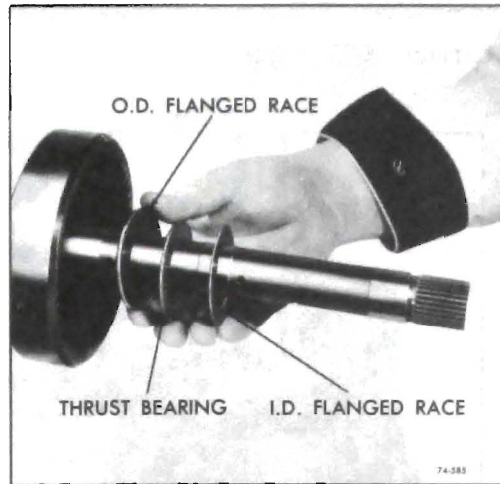

Figure 76-585
3. Install sun gear to internal gear thrust races and bearings against the inner face of the rear internal gear as follows; and retain with petroleum jelly. See Figure 76-585.